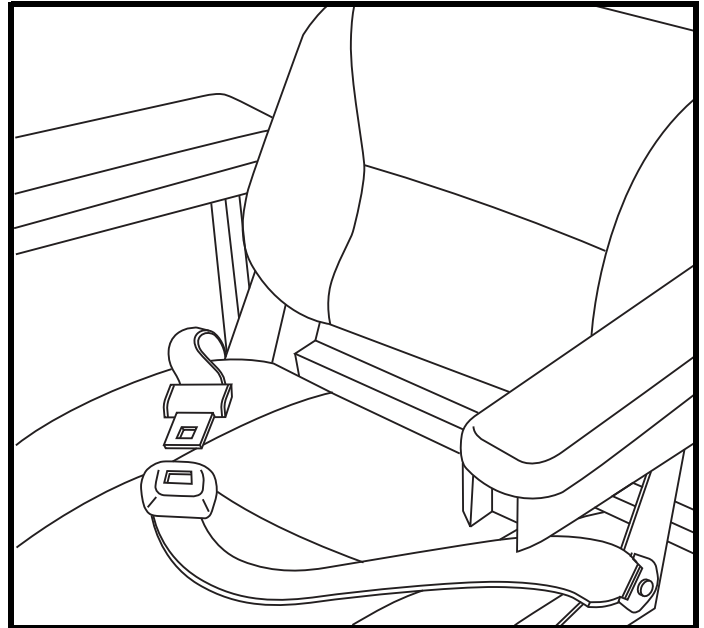

Figure 18. Positioning Belt Adjustment
Your power chair may be equipped with a positioning belt that can be adjusted for operator comfort. See **figure 18**. The positioning belt is designed to support the operator so that he/she does not slide down or forward in the seat. The positioning belt is not designed for use as a restraining device.
1. Once seated, insert the metal tab on one side of the belt into the plastic housing on the opposite side until you hear a click. See **figure 18**.